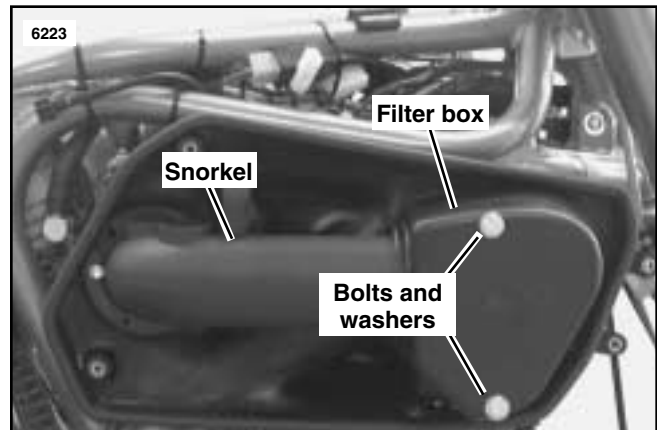

Figure 4. M2 or S3 Stock Filter Box
6. See Figure 4. Remove two bolts and washers from filter box. Slide filter box forward away from snorkel.